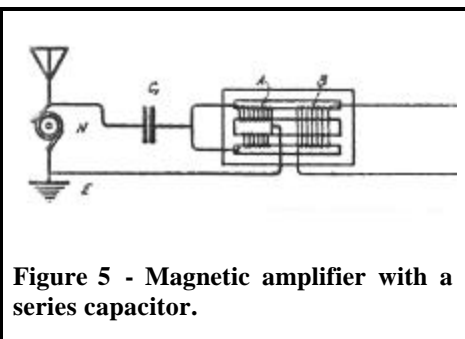

Figure 5 - Magnetic amplifier with a series capacitor.
A more sensitive control of the alternator output (a much smaller control current is required to vary antenna current) was obtained by use of a series capacitor (C1) as shown in Figure 5. If a capacitance value is chosen to neutralize the inductance of the RF windings for some definite value of control current, the impedance of the capacitor-coil (LC) circuit becomes minimum. The impedance at any lower excitation is determined by the difference between the inductive reactance of the amplifier coil and the capacitive reactance of the series condenser. The smaller the difference, the lower the alternator voltage.